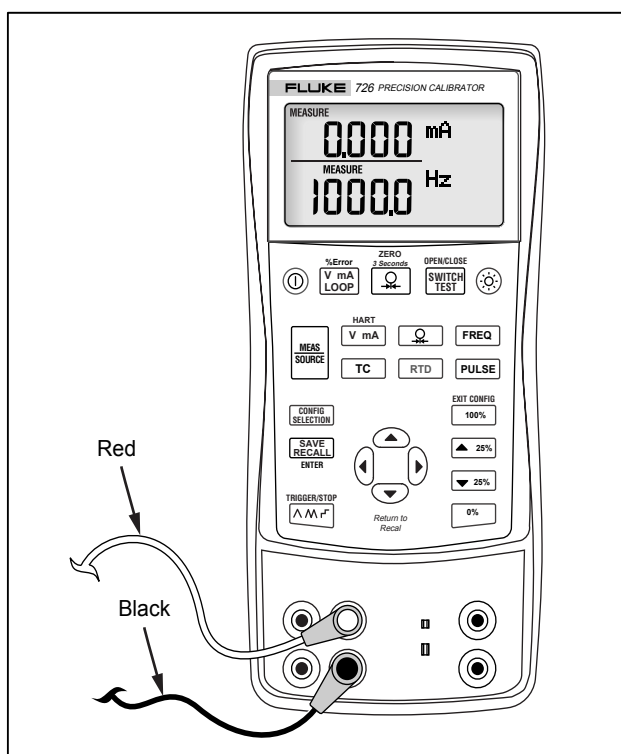

Figure 9. Measuring Electrical Parameters
1. Connect the Calibrator as shown in Figure 9.